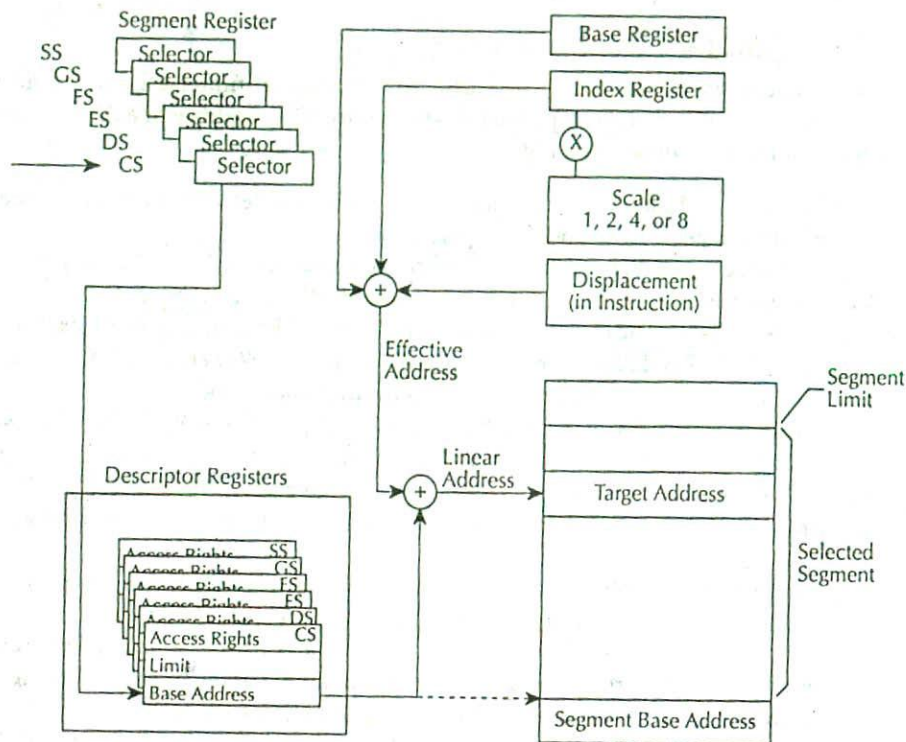

FIGURE 4.11 Addressing mode calculations.
As shown in Figure 4.11, the Effective Address (EA) of an operand is computed according to the following formula: